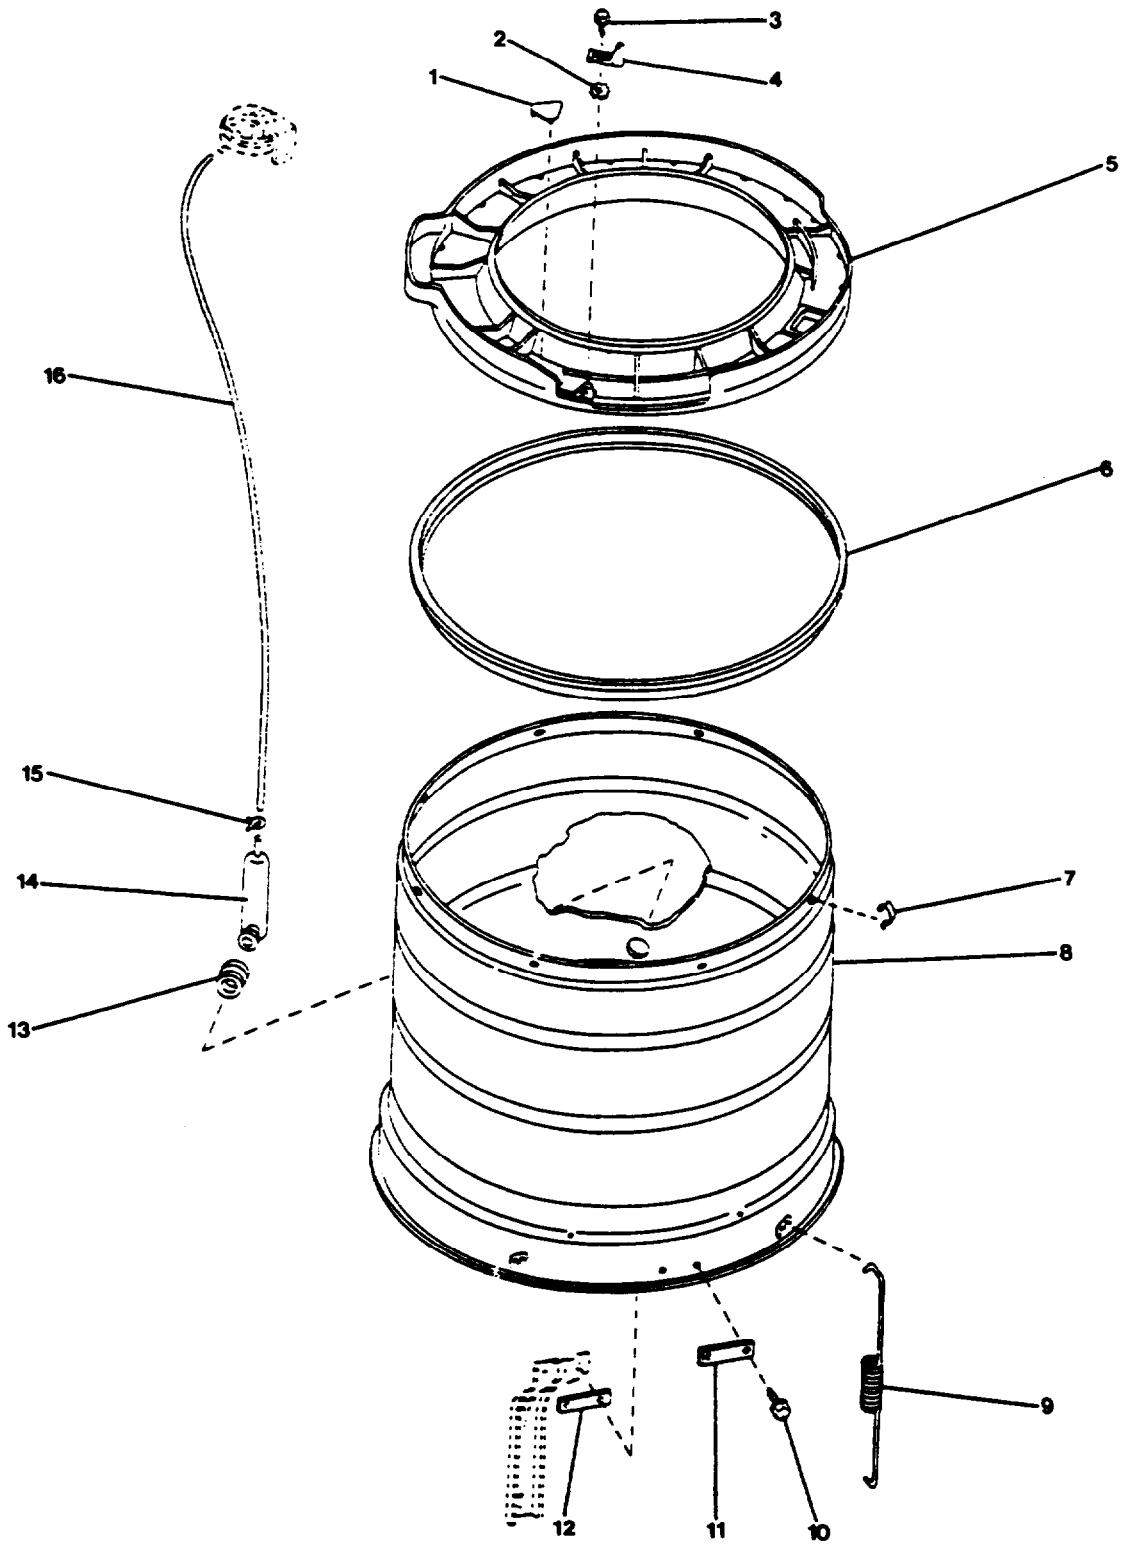
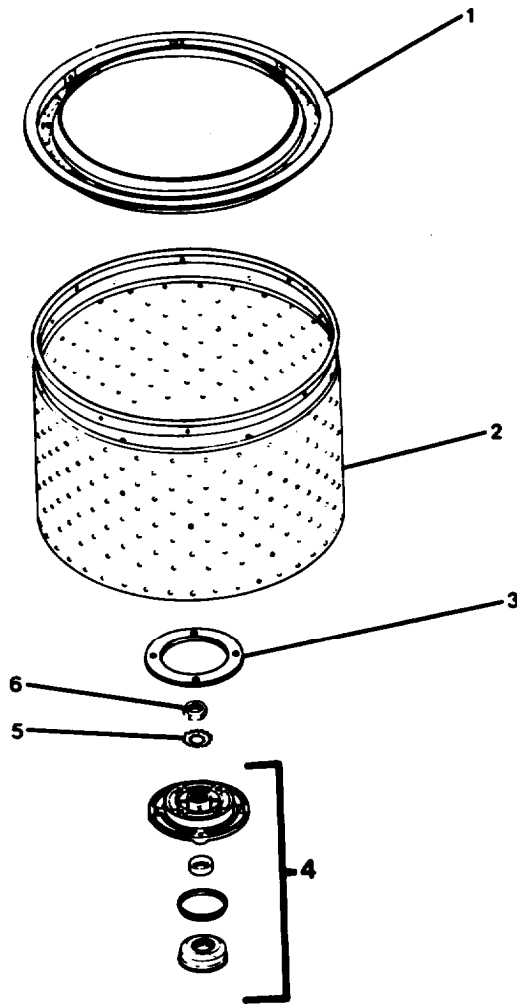
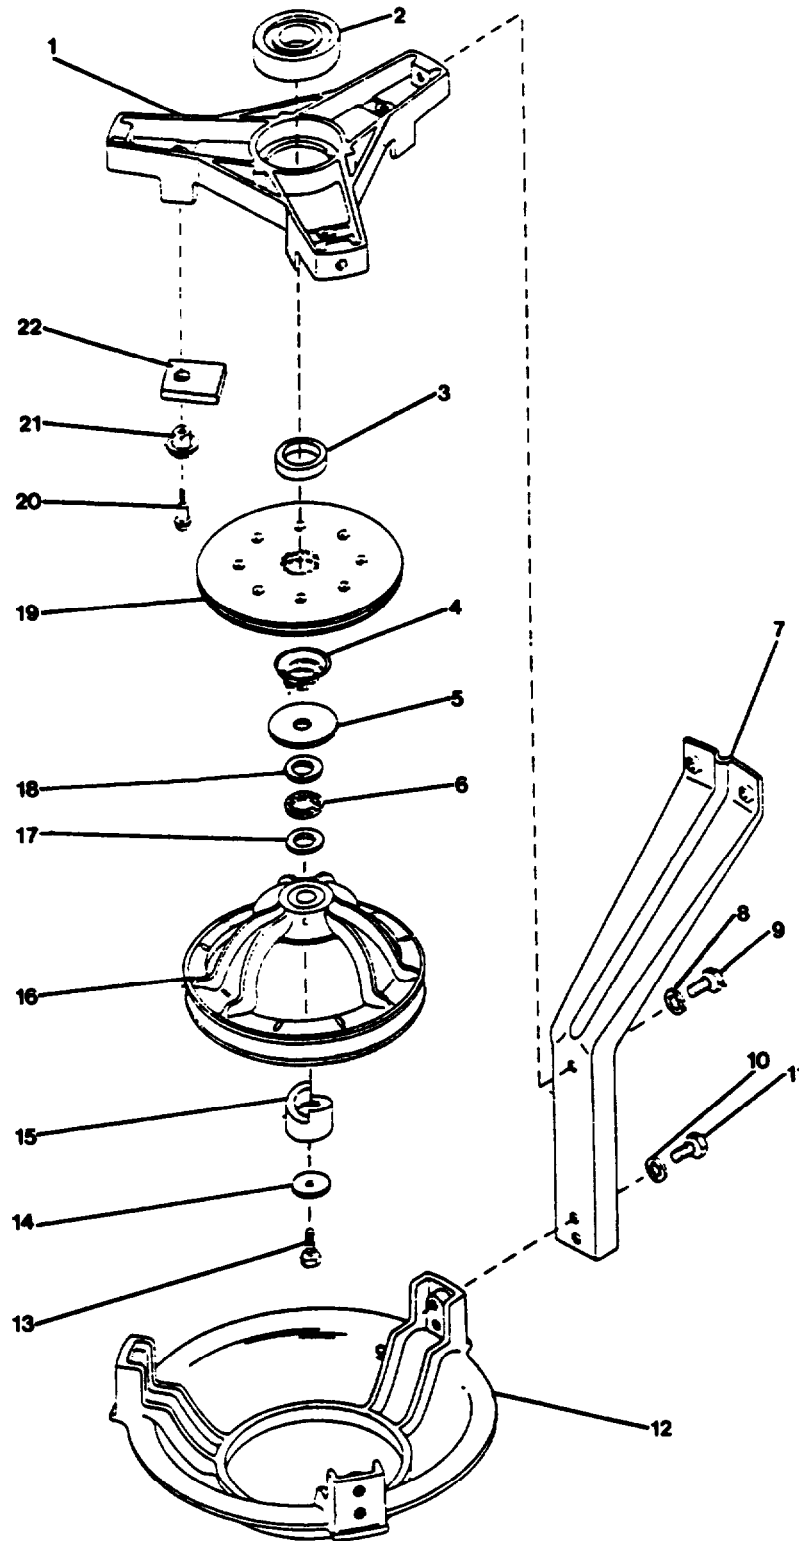
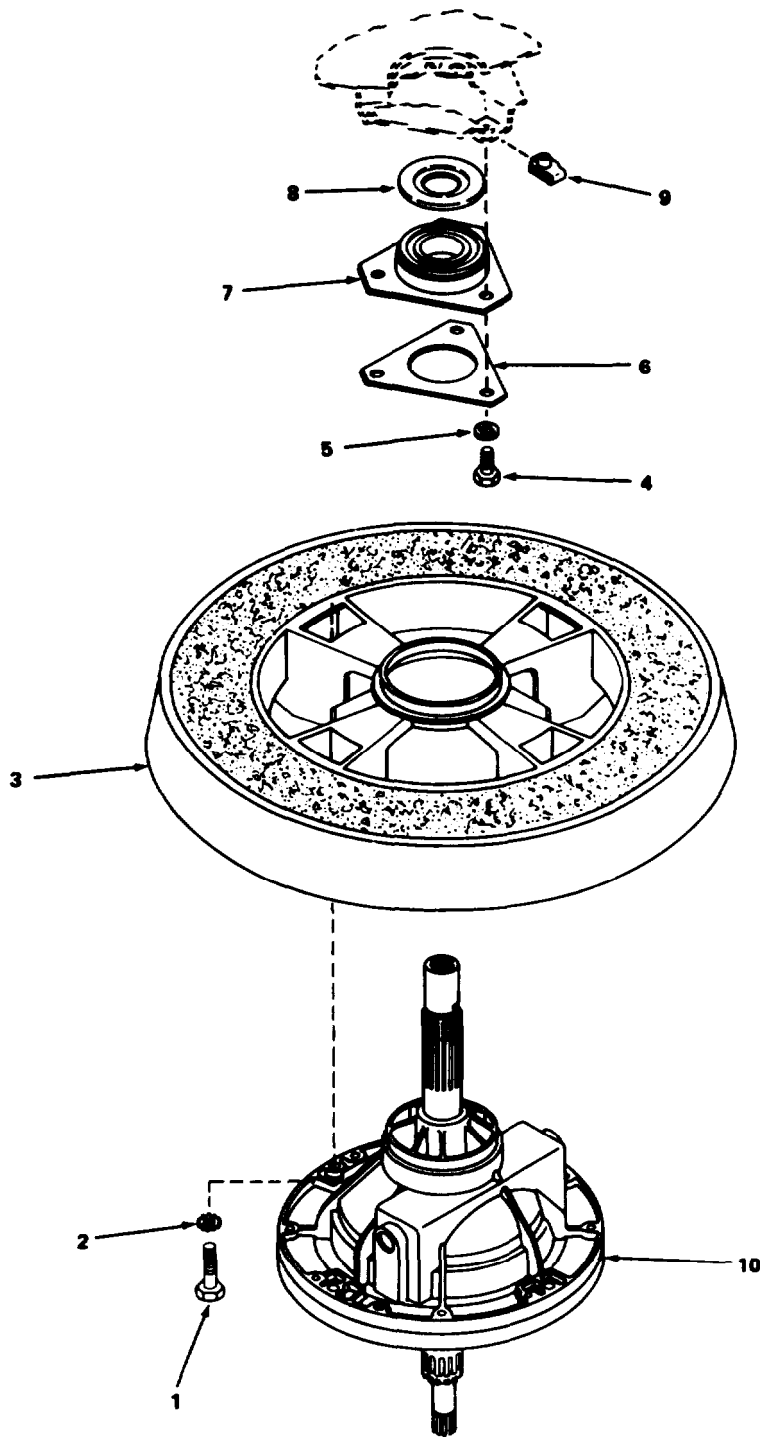

FIGURE 2-69. Washer Machine Outer Tub, Cover, and Pressure Hose Group.
FIGURE 2-70. Washer Machine Filter, Washtub, and Hub Croup.
FIGURE 2-71. Washer Machine Bearing Housing, Brake/Pulley and Pivot Dome.
FIGURE 2-72. Transmission Group.
- c. Remove washer machine (1) cabinet top (2) as follows:
- (1) Remove machine screw (3) and control panel (4).
- (2) Disconnect control hood wire harness from base wire harness at quick disconnect block.
- (3) Disconnect pressure hose (5) from pressure switch (6).
- (4) Push base wire harness block and pressure hose down through hole in cabinet top.
- (5) Tape loading door (7) closed.
- (6) Remove assembled washer screw (8) and speed nut (9).
- (7) Lift front of cabinet top slightly and pull forward to disengage from rear hold-down brackets and disconnect green ground wire from rear top flange of cabinet.
- (8) Carefully lift cabinet top off washer and set on protective padding.
- d. Remove plug (1, FIGURE 2-69).
- e. Remove hexagon head capscrew (3), trigger (4) and lo&washer (2).
- f. Remove spring clip (7) and outer tube cover (5).
- g. Remove cover gasket (6).
- h. Remove hexagon head capscrew (3, FIGURE 2-70) and gasket (4).
- i. Remove washtub (5).
- j. Remove fastener (1) and lint filter (2).
- k. Remove gasket (6).
- l. Remove hexagon plain nut (7) and lockwasher (8).
- m. Remove encased plain seal (9).
- p. Remove center spring (9, FIGURE 2-69).
- r. Loosen hose clamp (15, FIGURE 2-69) and remove pressure hose (16).
- s. Remove pressure accumulator (14) and grommet (13).
- u. Remove assembled washer screw (10), leg plates (11, 12), and lift transmission, balance ring, and pivot dome groups from bottom of outer tub and set on workbench.
- v. Remove hexagon capscrew (11, FIGURE 2-71) and lockwasher (10).
- w. Remove pivot dome (12).
- x. Remove machine screw (13), flat washer (14) and helix (15).
- y. Remove groove pulley (16).
- z. Remove outer bearing rings (17, 18), retainer and roller bearing (6), flat washer (5) and helical compression spring (4).
- aa. Remove brake assembly (19) and spacer (3).
- ab. Remove shoulder screw (20), sleeve (21) and brake pad (22).